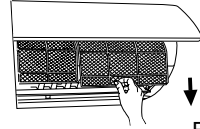

Fig. 20
(1) Forcibly pull the panel for a specific angle from the two ends of the front panel according to the arrow direction. Then pull the air filter downwards to remove it. (See Fig.20)